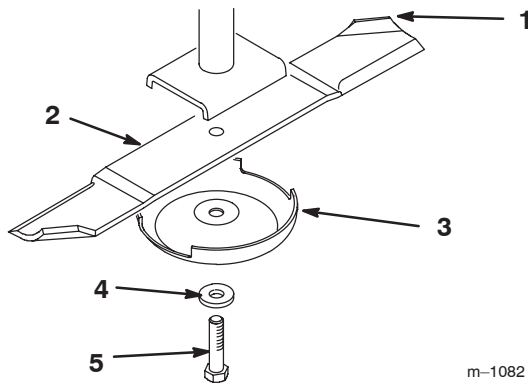

Figure 6
2. Install Recycler® blades in kit. Secure washer and bolt previously removed (Fig. 6).